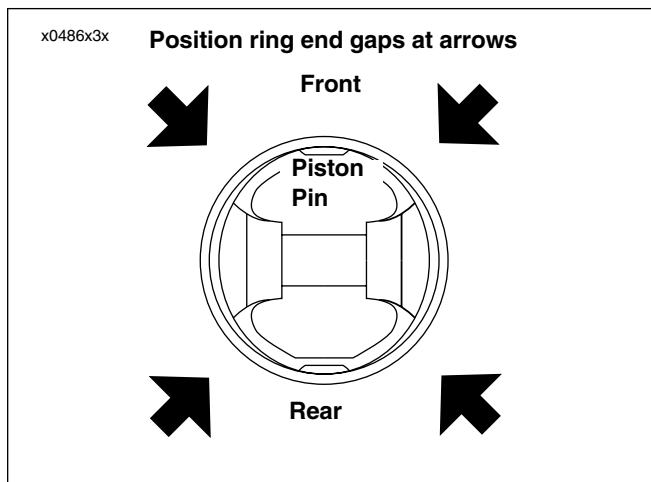

Figure 3-95. Ring End Gap Position
3. See Figure 3-95. Install rings so end gaps of adjacent rings are a minimum of 90° apart. Ring gaps are not to be within 10° of the thrust face centerline.